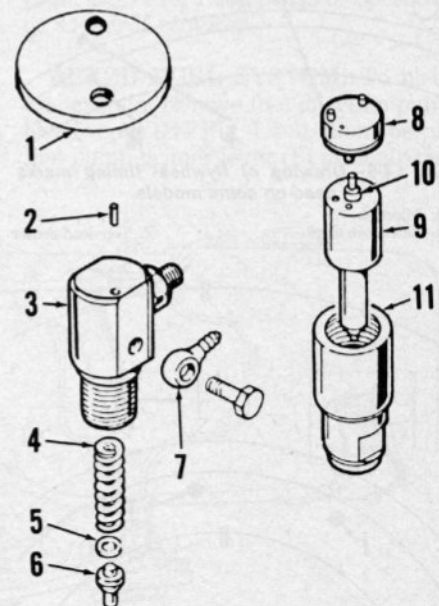

Fig. L4-13 - Exploded view of injector.
REMOVE AND REINSTALL. To remove injector, first clean dirt from injector, injection line, return line and cylinder head. Disconnect return line and injection line and immediately cap or plug all openings. Unscrew retainer plate (1-Fig. L4-13) being careful not to lose dowel pin (2). Injector may now be carefully removed from cylinder head. Do not lose shims between injector and cylinder head.
Opening pressure with a new spring (4-Fig. L4-13) should be 21.6-22.5 MPa while opening pressure with a used spring should be 20.6-21.6 MPa. Opening pressure is adjusted by varying number and thickness of shims (5). Valve should not show leakage at orifice spray holes for 10 seconds at 19.1 MPa.
OVERHAUL. Clamp nozzle body (3-Fig. L4-13) in a vise with nozzle tip pointing upward. Remove nozzle holder nut (11). Remove nozzle tip (9) with valve (10) and spacer (8). Invert nozzle body (3) and remove spring seat (6), shim (5) and spring (4). Thoroughly clean all parts in a suitable solvent. Clean inside orifice end of nozzle tip with a wooden cleaning stick. The orifice spray holes may be cleaned by inserting a 0.28 mm cleaning wire. When reassembling injector, make certain all components are clean and wet with clean diesel fuel oil. Tighten nozzle holder nut (11) to 60-90 N·m.